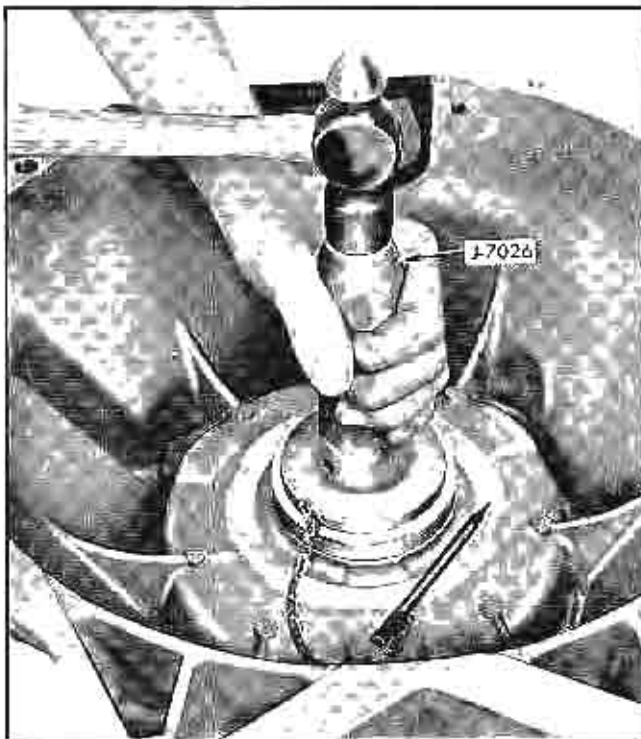

Fig. 142 Installing Flywheel Housing Oil Seal
5. Stake seal at three housing reinforcement bosses with punch provided with tool (Fig. 142).